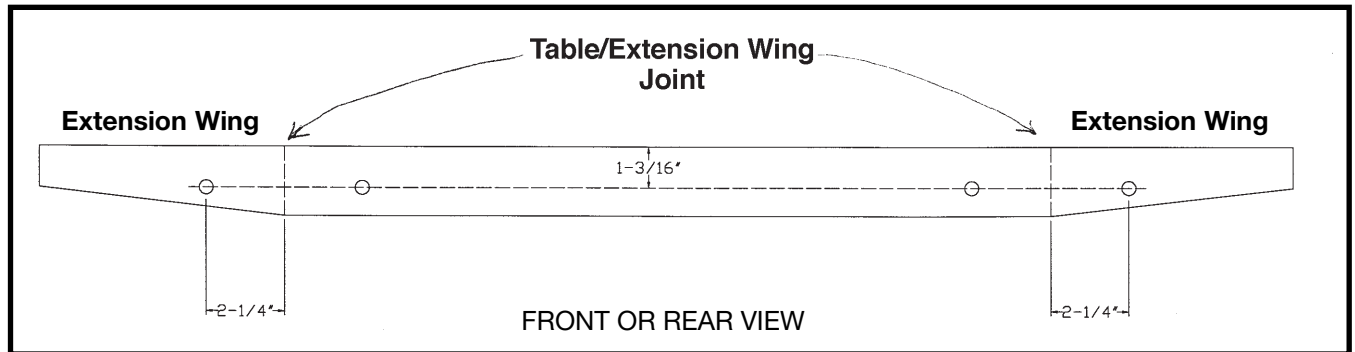

Fig. 3
2. Mark and drill a 13/32" diameter hole into the front and back side of each extension wing in the locations shown in Fig. 3.